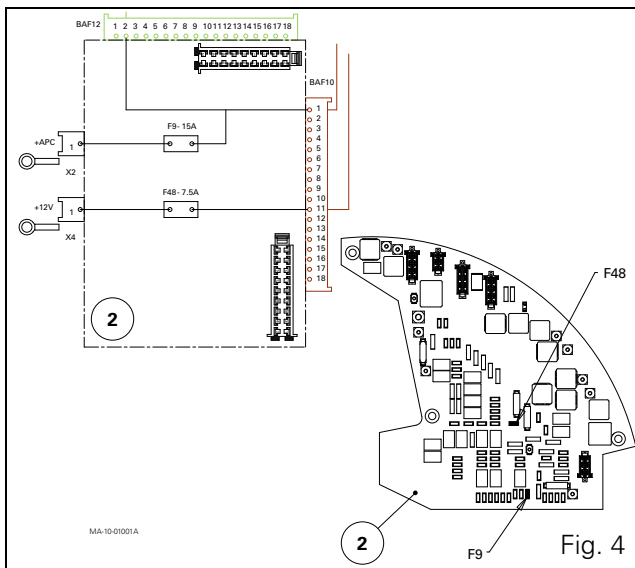

Fig. 4
The fuses and relays of the electrical or electronic board (Fig. 4) are indicated by a black mark on their locations on the fuse box (2).